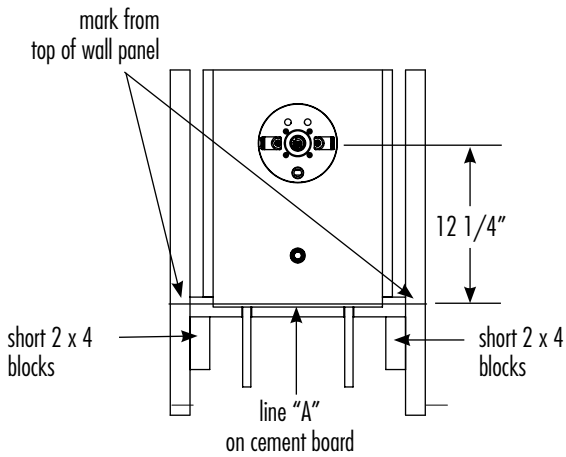

figure 12
6. The center of the valve should be 12 1/4" above the top edge of the bottom wall panel 3B when installed. From the horizontal center of the valve, measure 12 1/4" down and draw a horizontal line across the cement board, line "A" (fig. 12).
8. Mark on 2 x 4 wall studs the bottom of the Plumber's Upgrade (fig. 12) and remove the Plumber's Upgrade.
9. Line up the small 2 x 4 blocks from step 6 underneath the line you just marked. Screw them into the studs. The Plumber's Upgrade will rest on them (fig. 12).